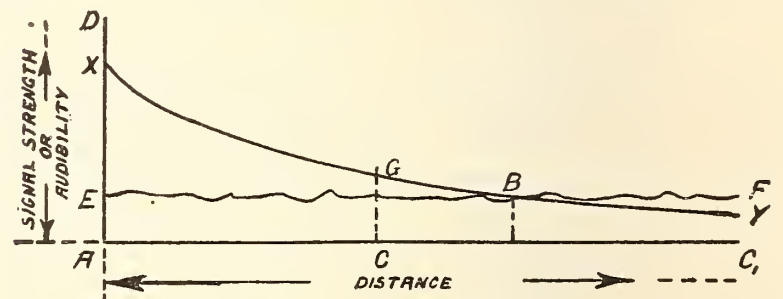
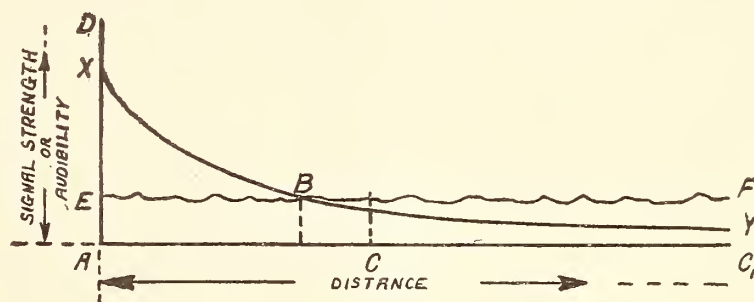
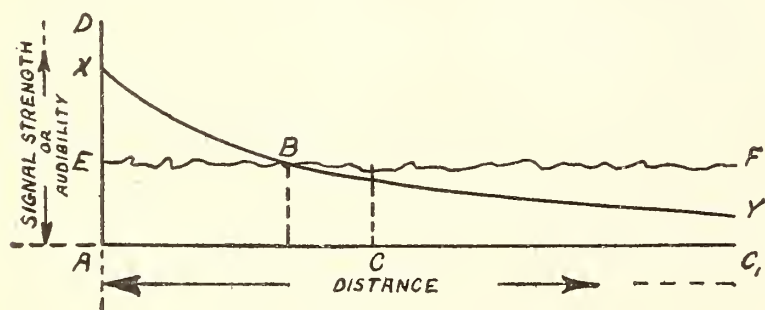

FIG. 1
FIG. 2
FIG. 3
Here, the static level is the same as in Fig. 1. But the broadcast signal is weakened in its passage eastward, due to conditions between the Pacific (A), and the Atlantic (C) Coasts, with the result that it sinks below the static level before reaching New York (C) and no receiver now known can receive it
This can well be illustrated by the diagram, Fig. 1. Let the two points, A and C, represent the Pacific Coast and New York, respectively, with the intervening distance, indicated by the line between them. Let the height above the line AC, measured along the line AD, represent signal strength or audibility. The irregular line, EF represents the static level that existed on the first night of reception. The line XY represents the radio signal that is sent out from the Pacific Coast as it travels toward the East. It will be seen that the farther it goes in the easterly direction, the
Now let us turn to Fig. 2. Here the same conditions prevail, with one exception—the signal-static ratio is changed. It can be seen that we have two variables here, both of which lie between fairly wide limits—that is, the actual signal strength itself represented as the distance of the line XY above the line AC and the strength of the static level EF (which is shown at the same height above AC in both Fig. 1 and Fig. 2, indicating it to be the same strength on these two nights). However, in Fig. 2, the line XY is seen to pass under the line EF before it reaches New York. In other words, due to poor conditions prevailing between the points A and C, the radio signal is not carrying as well the second night as it did the first, falling off more rapidly. And after it has passed beyond the point B,
On this night, the signal which reaches New York is represented as of the same intensity as in Fig. 1. The static is worse, and there is "nothing doing" on West Coast signals
There is another case that might be considered: the signal strength on these two succeeding nights might have remained the same, or varied only slightly, while the static level itself changed. This condition is illustrated in Fig. 3, where the signal strength represented by XY is identical with that indicated in Fig. 1, but the signal-static ratio or the line EF, is higher. If this were the case on the second night, the operator would never have attempted